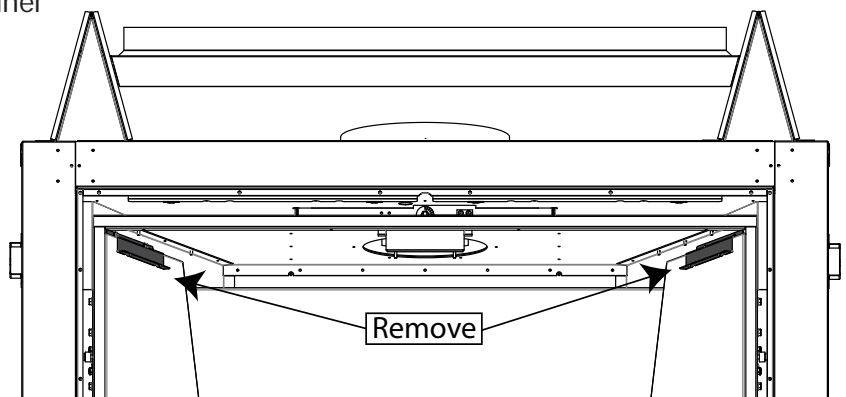

Figure 75: Liner Retainers
Step 3. Remove the side liner retainers one at a time using a 5/16 socket (see Figure 75). The screws only have to be loosened, not completely removed, as the retainers are slotted. ***Note:** The upper rear liner is supported by the side liners. When removing the side liners, be sure to properly support the upper rear liner so that it does not fall.